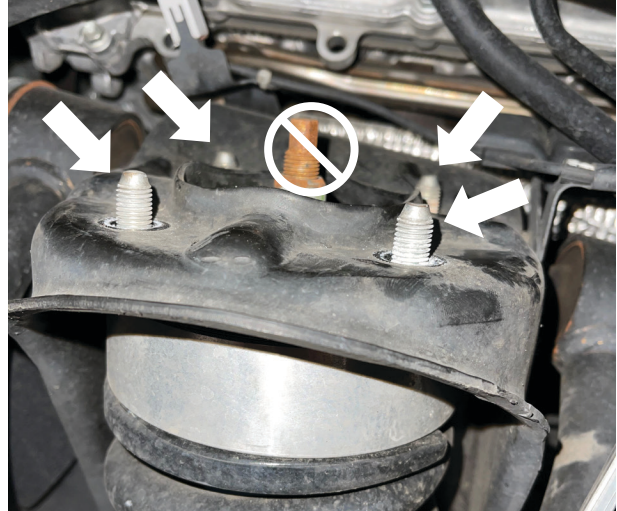

Fig. 4: Remove top hat nuts.
7. Remove the four top nuts that secure the stock shock assembly to the vehicle (Fig. 4). DO NOT remove center nut. Removal of the center nut will release the spring from the stock assembly and may result in SERIOUS INJURY or DEATH!